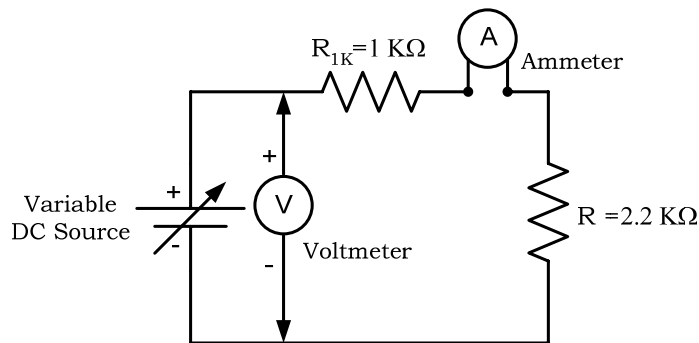

Figure 2.1: Verification of Ohm's Law
- Construct the circuit of Figure 2.1. Do not switch on the power supply.